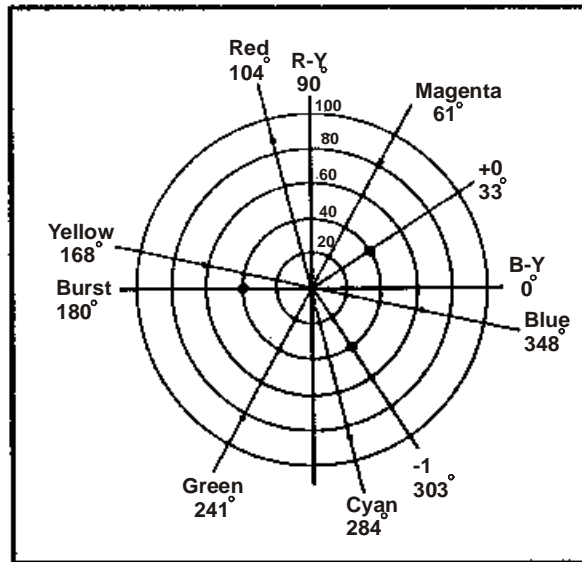

Figure H-16. Vector Relationship Among Burst and Chrominance Components
I. A proper color bars test signal will display the vector relationship among the burst and chrominance components of the signal as illustrated in Figure H-16.